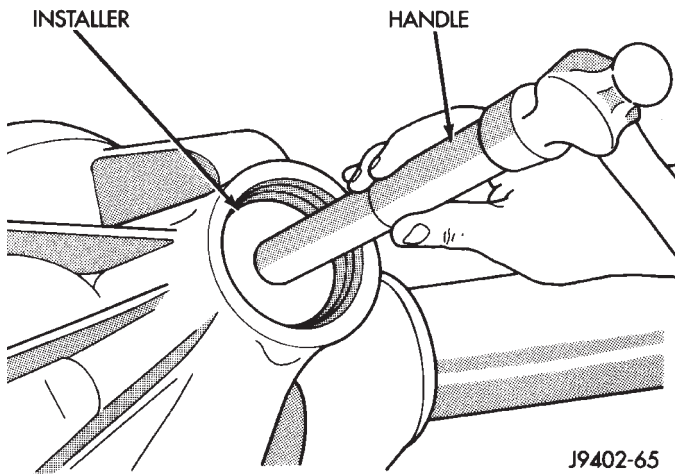

Fig. 30 Pinion Front Bearing Cup Installation
(3) Apply Mopar® Door Ease, or equivalent, stick lubricant to outside surface of bearing cup.
(4) Install the pinion front bearing cup with Installer D-130 and Handle C-4171 (Fig. 30).